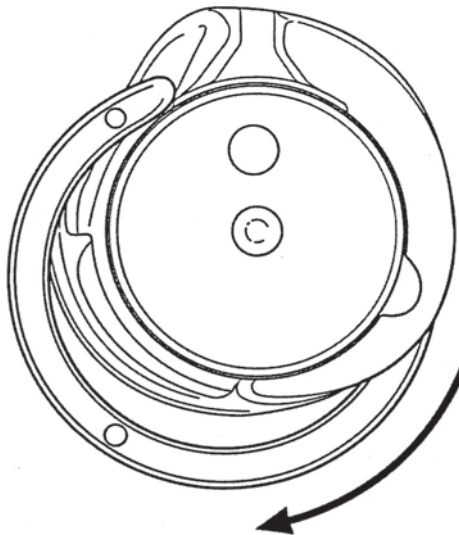

Fig. 26b
- Turn the sewing hook gib to the left or to the right out of the bobbin case base (fig. 26b).